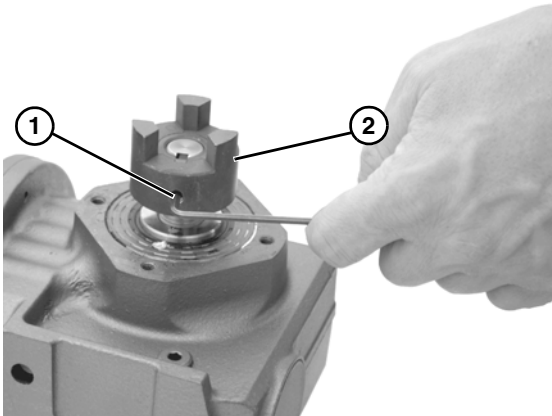

Figure 14
- Loosen set screw (**Figure 14, item 1**) and remove 3 jaw coupling (**Figure 14, item 2**).